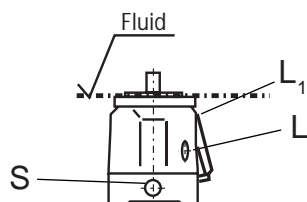

Fig. 1
a) If the minimum fluid level is equal to or above the pump mounting face leave ports "L", "L₁" and "S" open (see Fig. 1).